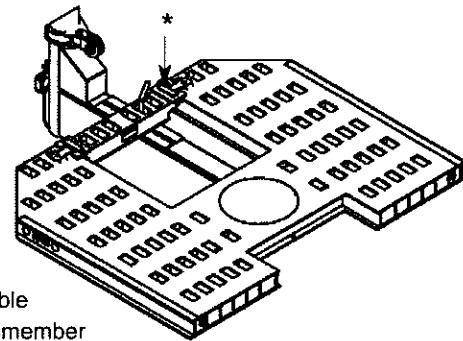

Figure 7
1. Swing tower to desired lateral pulling angle and pin it to mainframe or movable crossmember. (See Figure 7.) Tower pin can be used in any tie down hole. (See Figure 8.) DO NOT position tower pin in front of or at rear of movable crossmember as it will apply excessive stress to crossmember locks. Instead, install tower pin through crossmember tie down hole. (See Figure 7.) Tower pin must be fully seated in lower pinning hole to avoid damage to top pinning hole. (See Figure 9.)